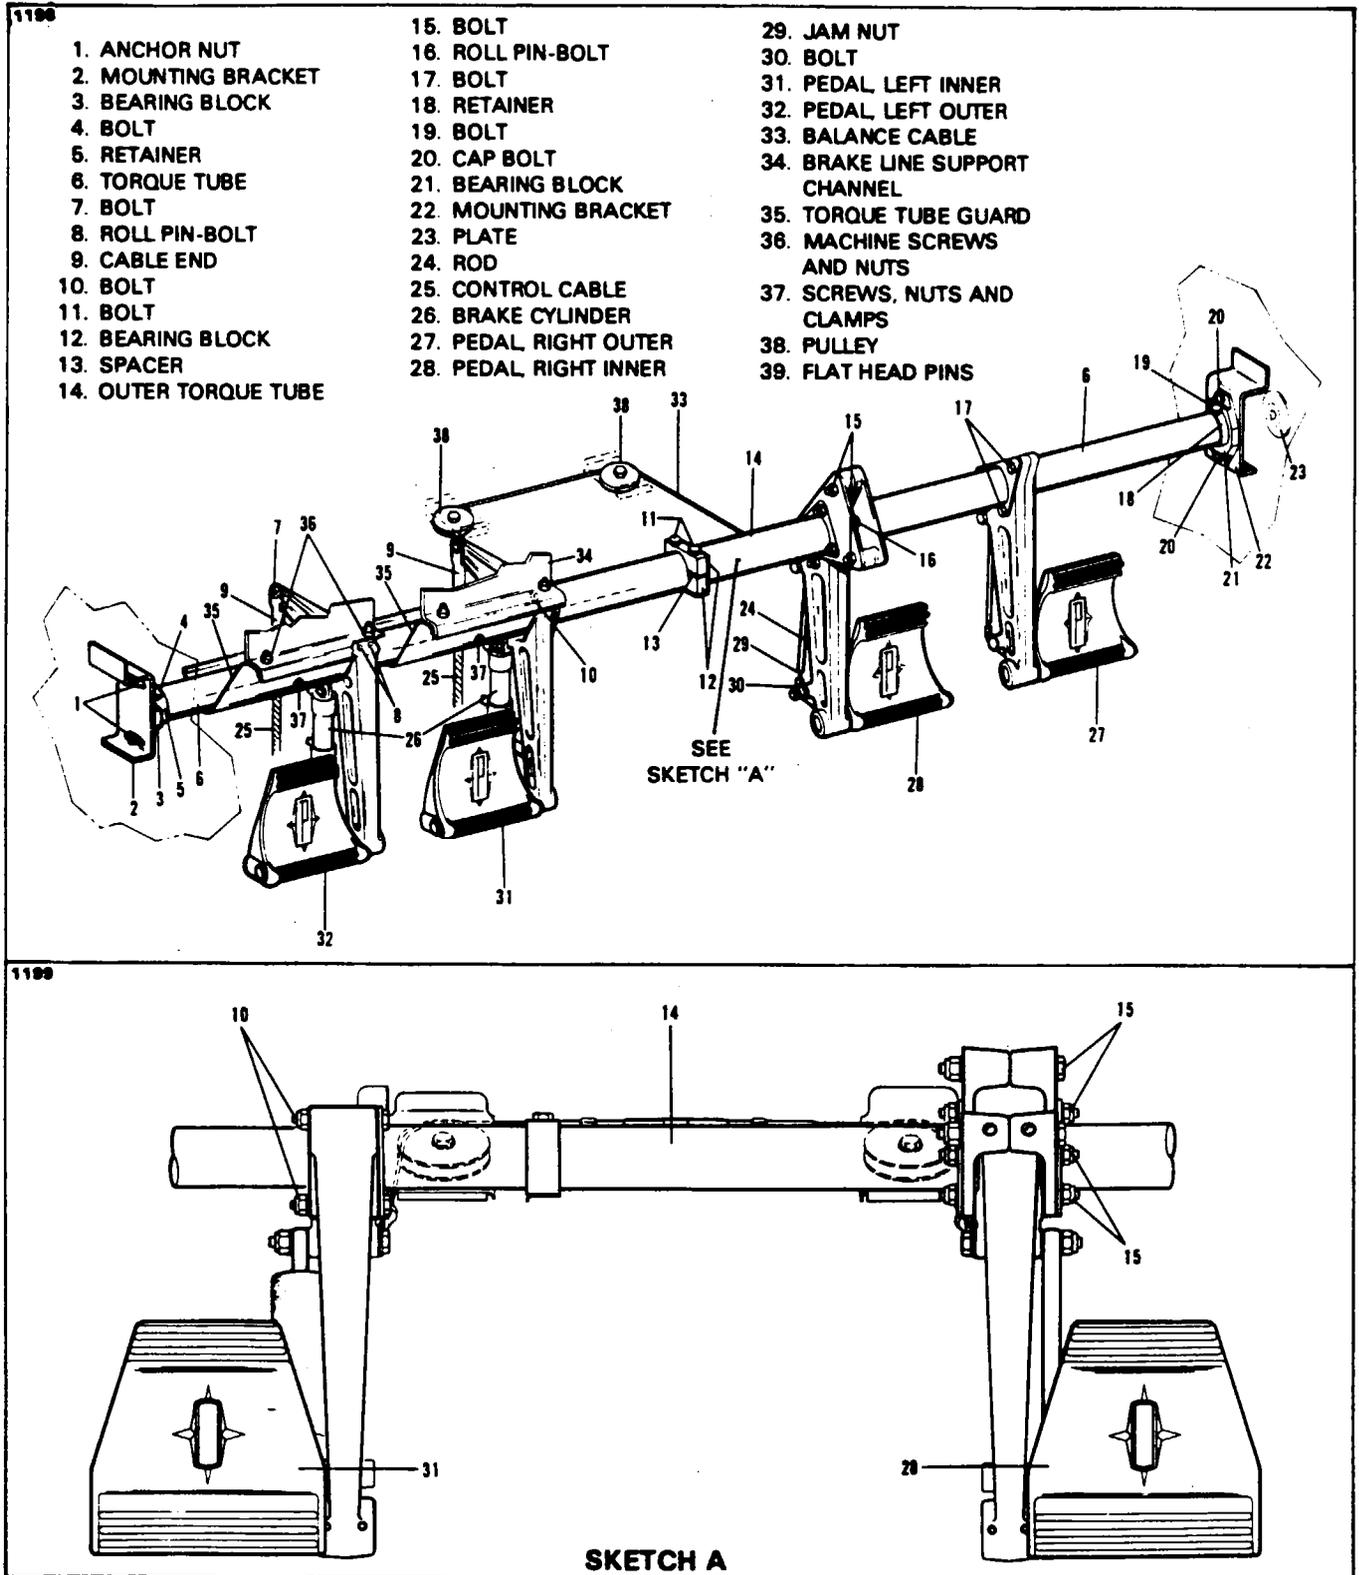

Figure 27-17. Rudder Pedal Installation
**REMOVAL OF RUDDER PEDAL ASSEMBLY.** (Refer to Figure 27-17.)
**INSTALLATION OF RUDDER PEDAL ASSEMBLY.** (Refer to Figure 27-17.)